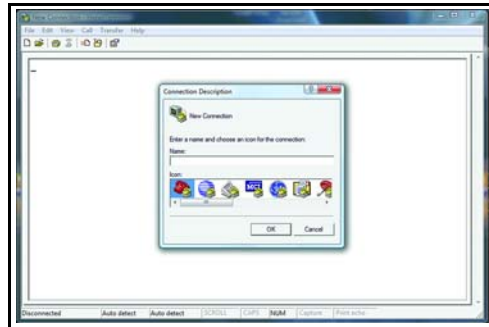

Figure 4 HyperTerminal Main Menu
1. Open HyperTerminal on the PC. The New Connection - HyperTerminal Primary Menu Screen (Figure 4) will appear.